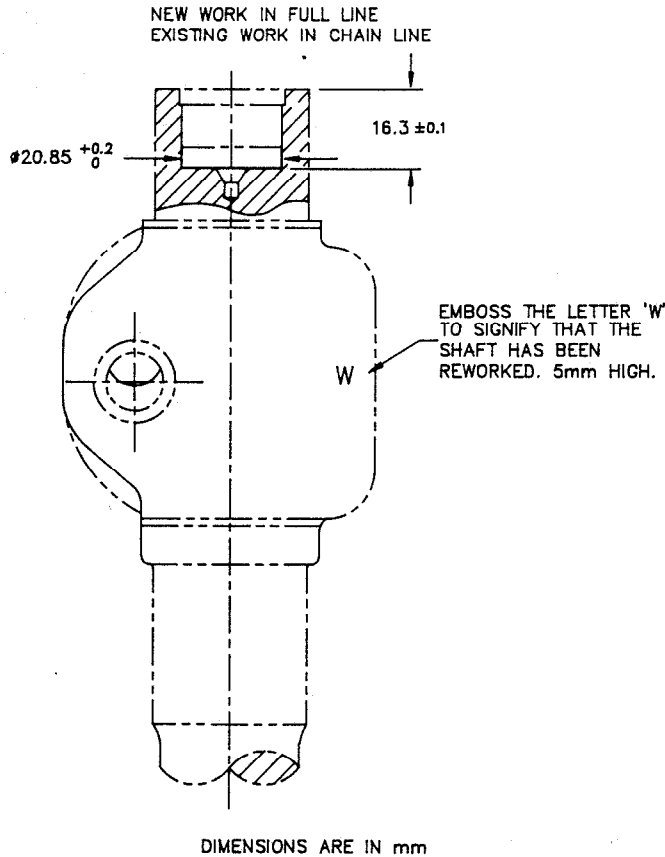

Figure 4 - Sector Shaft Rework
- (1) press out the sector shaft roller bearings;
- (2) press the sector shaft top bearing in to a depth of 83 mm (3.150 inches) from the top machined face of the steering box housing; and
- (3) press the lower bearing in until it is 1.0 mm (0.040 inch) below the chamfer.
- b. Machine the sector shaft adjuster screw seat area to the dimensions shown in Figure 4 and ensure that the hardened washer (Item 1) is seated fully in the machined recess.